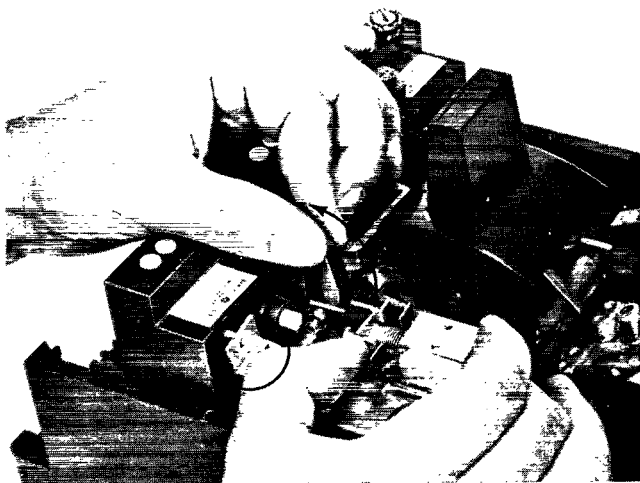
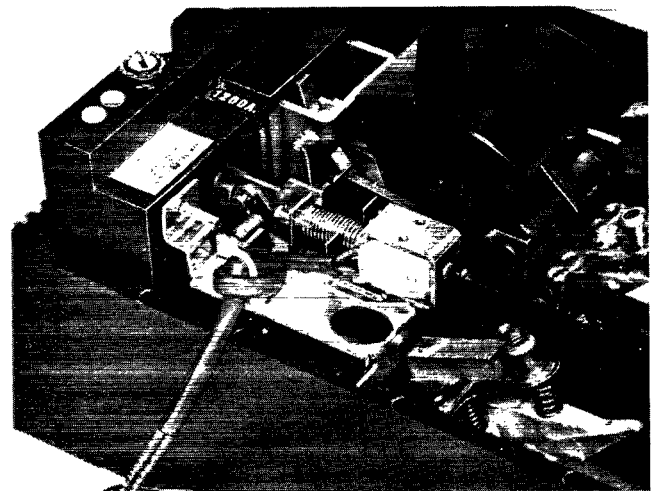

Figure 4. Placement of the undervoltage release assembly in the circuit breaker.
Figure 5. Undervoltage release accessory installed in the circuit breaker, with the leads exiting the case.
9. Seat the plunger in the coil of the undervoltage release assembly and hold it firmly. Hold the reset lever back toward the trip unit, then place the assembly on the alignment pin or set screw and rotate it into place in the circuit breaker, as illustrated in Figure 4. The undervoltage release accessory is designed to sit freely in the breaker, as illustrated in Figure 5.
8. Seat the plunger in the coil of the undervoltage release assembly and hold it firmly. Hold the reset lever back toward the trip unit, then place the assembly on the alignment pin or set screw and rotate it into place in the circuit breaker, as illustrated in Figure 4. The undervoltage release accessory is designed to sit freely in the breaker, as illustrated in Figure 5.